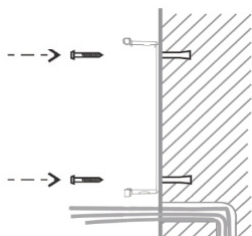

Figure 4-4:
- A. Align the screw holes of the wall bracket with the holes in the wall and fix them to the wall with the screws, as shown in Figure 4-4.